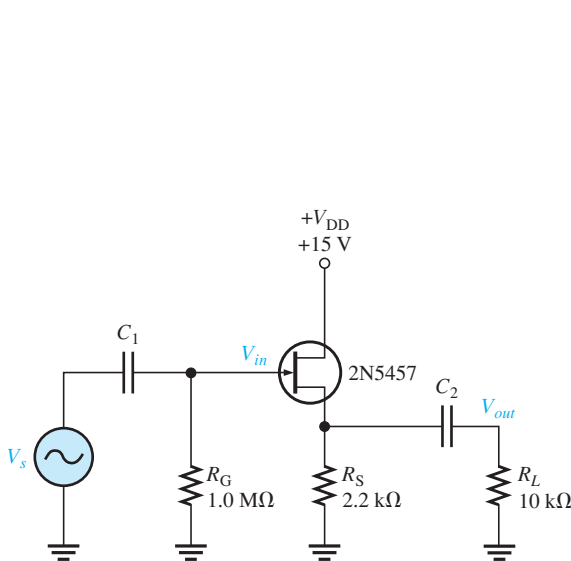

FIGURE 4-84
27. The minimum specified value of g_m for a 2N5457 is 1000 μ mhos and the maximum specified value is 5000 μ mhos. From these values, find the minimum and maximum gain for the CD amplifier in Figure 4-84.